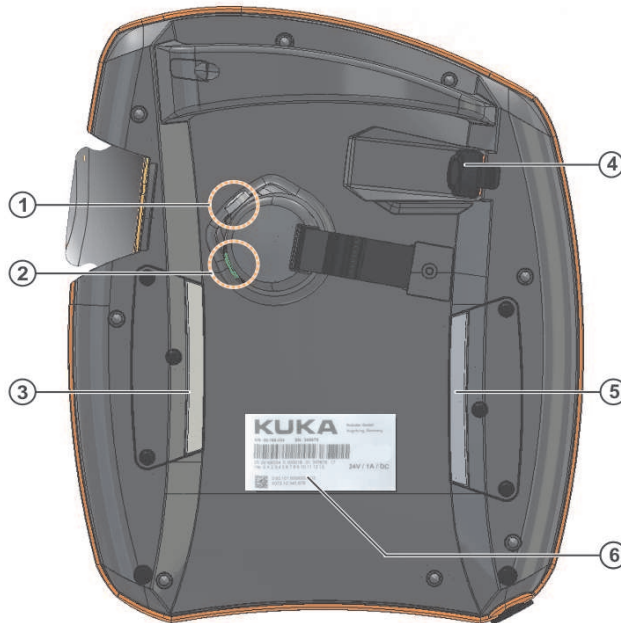
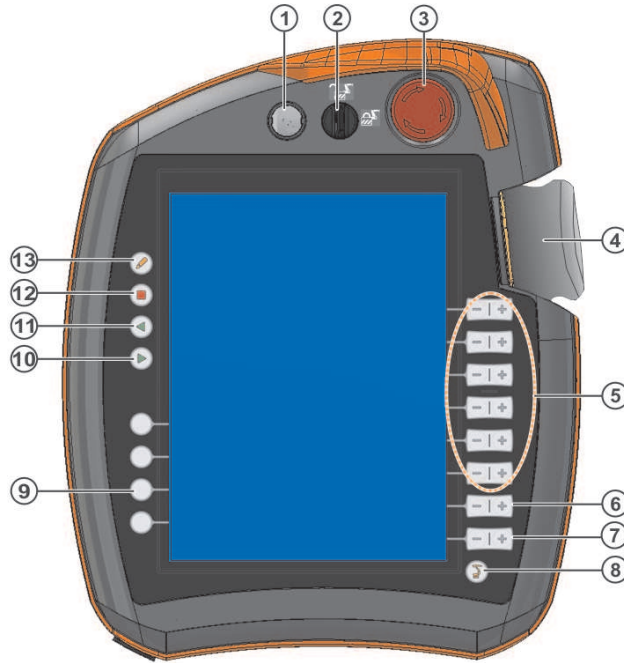

Figure 1: 3 and 5 are Enable buttons on the KUKA SmartPAD.
Figure 2: 10 is the Run button on the KUKA SmartPAD.
- To run the program, hold down half-way one of the enable buttons on the back of the KUKA SmartPAD. The enable buttons are labelled 3 and 5 in Figure 1. If you press too hard, an emergency stop will be activated. While holding down the enable button, press and hold the run button labelled 10 in Figure 2. Note that when running the line `RSI_ON` a warning will appear saying ‘Caution - sensor correction is activated’. Simply confirm this warning to continue.